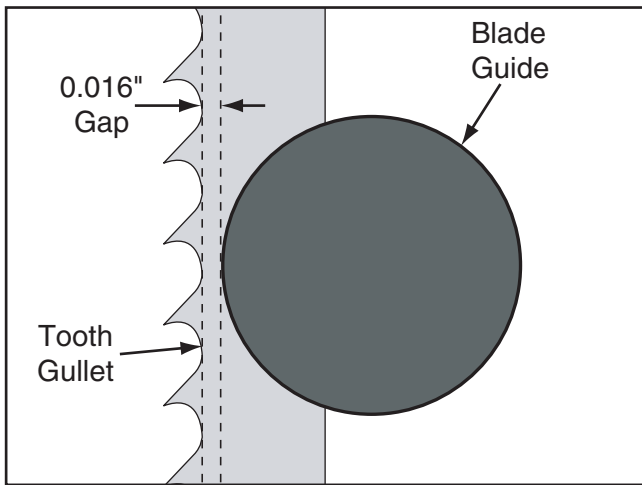

Figure 52. Correct guide alignment behind the teeth gullets.
- By hand, slide the guide block to position the blade guides approximately 0.016" behind the teeth gullets (see **Figure 52**), then re-tighten the guide block cap screw to secure the setting.